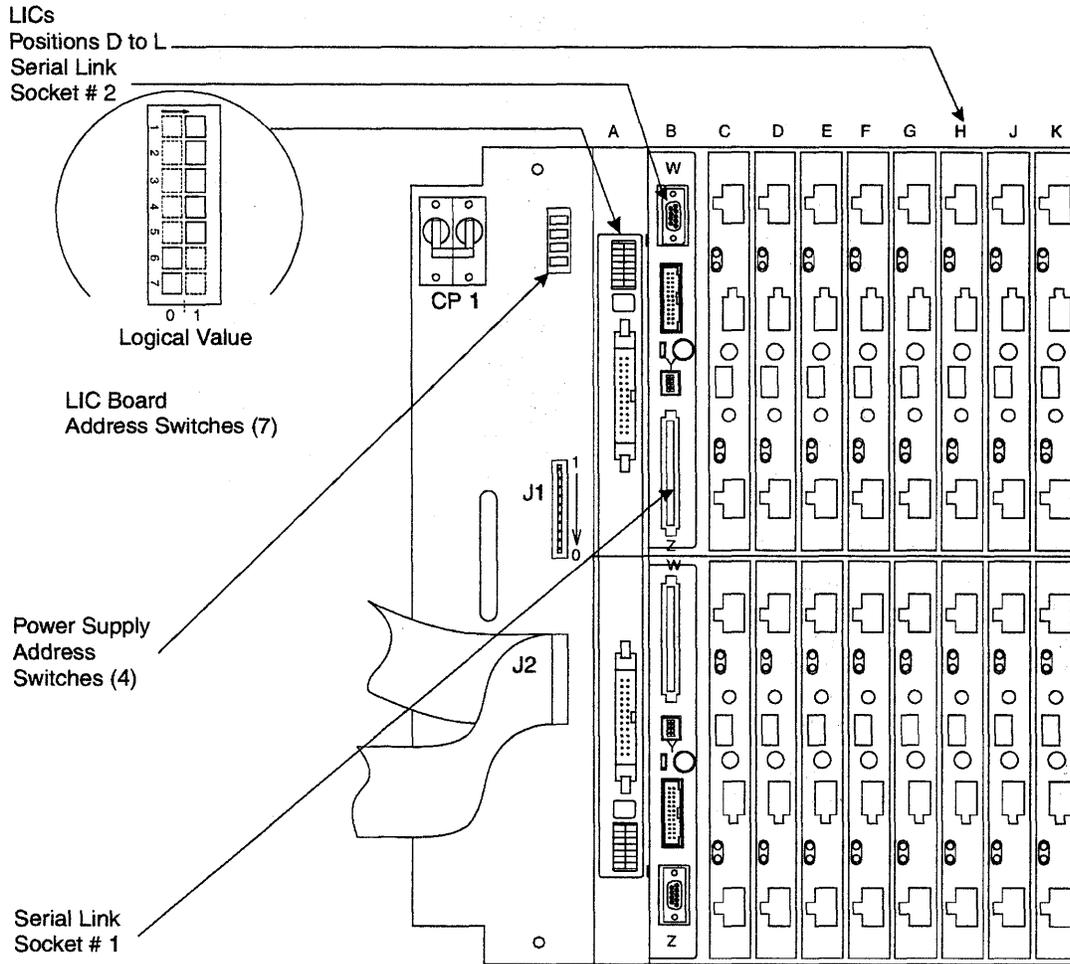

Figure 4-140. LIC Board Type 2 Assembly
Refer to Figure 4-140 on page 4-153 and do the following:
1. Refer to Figure 4-140 on page 4-153 and set the board address to the same one you noted during board removal.